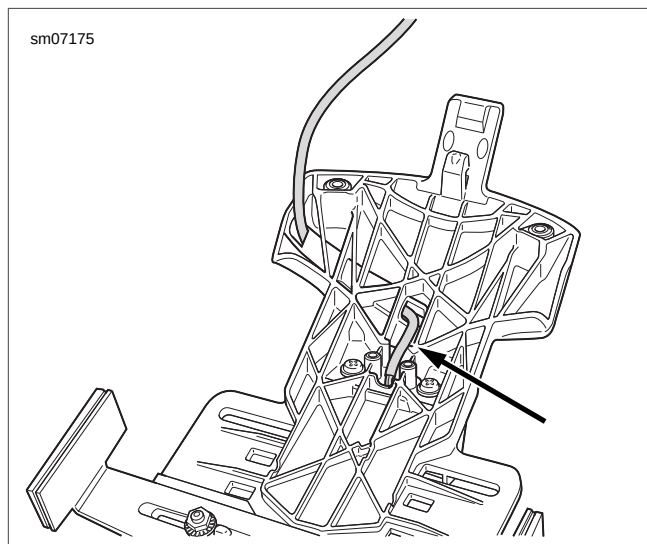

Figure 2-112. License Plate Bracket Wire Routing
1. Press **new** adhesive tape (1) onto surface for 1-3 minutes.
2. See Figure 2-112. Make sure wiring is properly routed through license plate bracket.